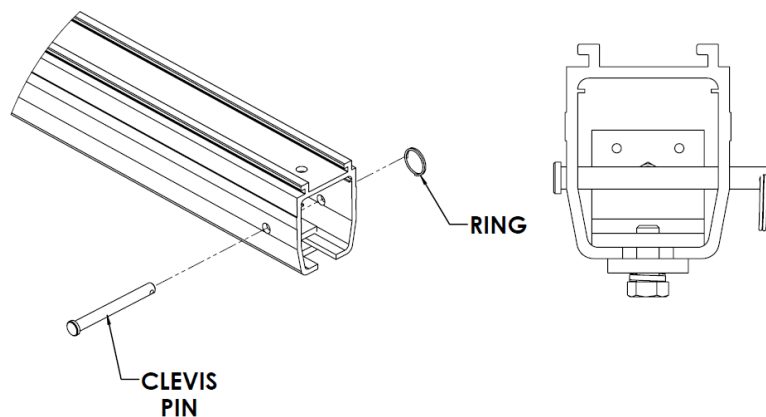

Figure 317: **Clevis Pin and Ring Installed**
5. At all terminal ends, install the clevis pin and ring as shown in Figure 317.